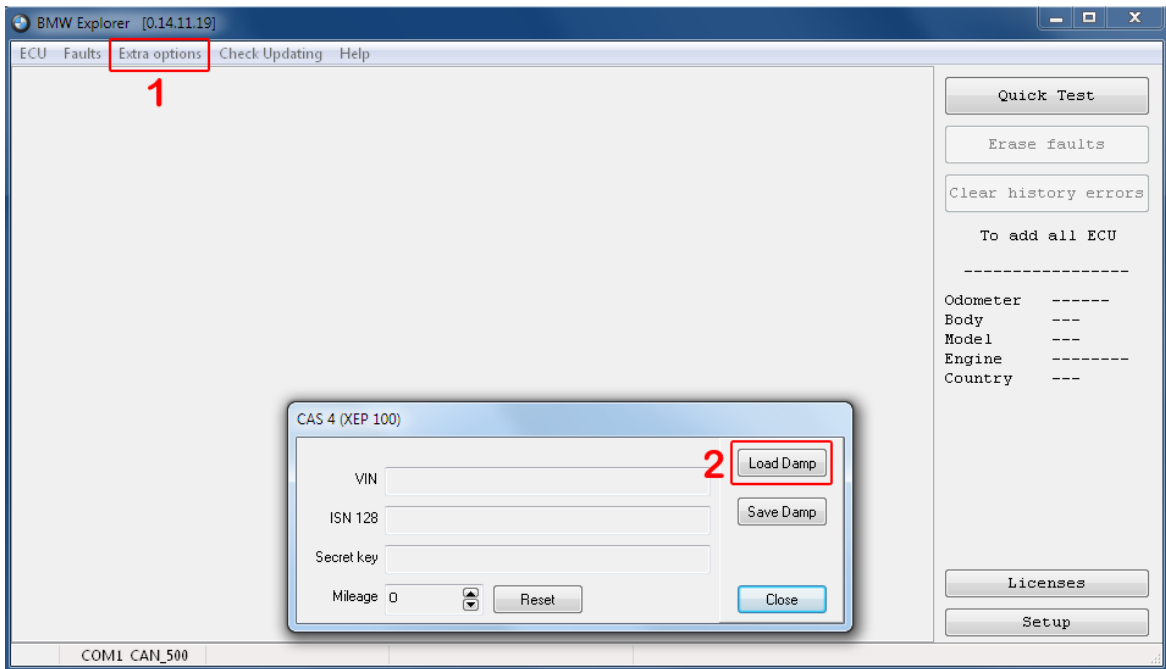

Figure 27 BMW Explorer <http://en.auto-explorer.com/>
- For example, stored Data-FLASH can be decrypted and edited by 'BMW Explorer' software (<http://en.auto-explorer.com/>). Select 'Extra options->Calc CAS->CAS4 (XEP100)' of P-FLASH check box (Figure 27). Press 'Load Damp' Button.